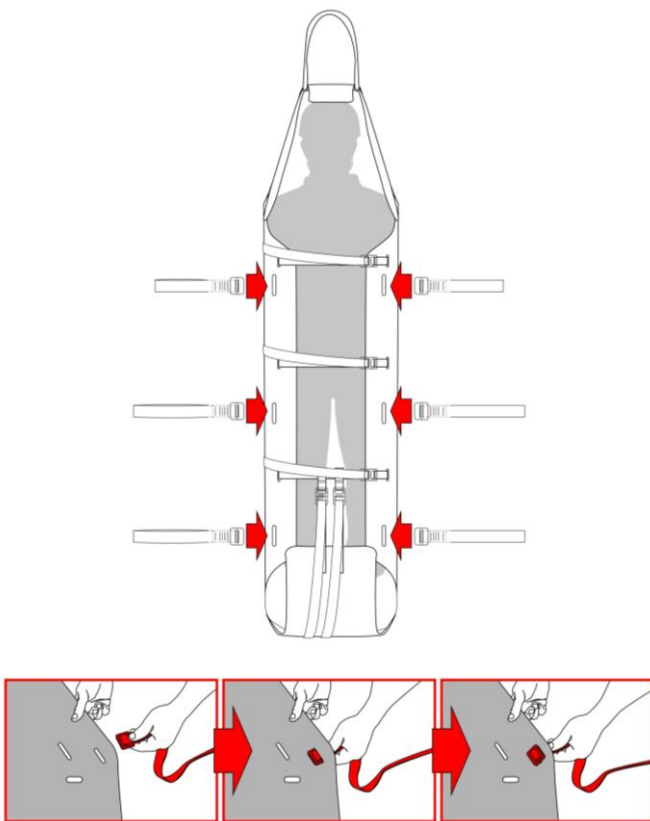

Fig. 13
- manual transport: insert the side handles (F) into the slots A5 of the support surface (fig. 13) - Note: it is recommended to place the pair of shorter handles into the slots near the patient's torso to keep the head in a higher position than the feet,